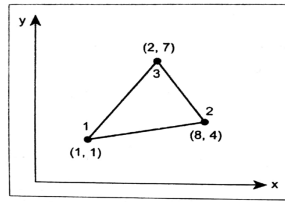

Figure 6
6. (a) For the triangular element shown in Figure 6. Obtain the strain-displacement relationship matrix [B] and determine the strains $\varepsilon_x, \varepsilon_y$ and γ_{xy} . [7M]